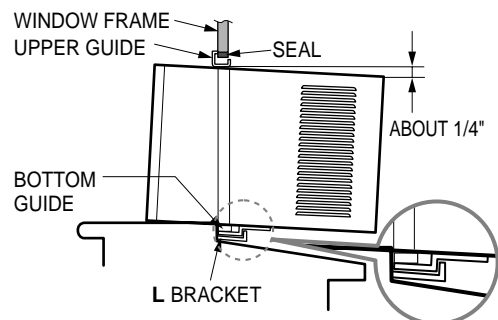

Figure 30
- While steadying the air conditioner, carefully bring the window sash down behind the upper guide of the air conditioner, as shown in Figure. 30.